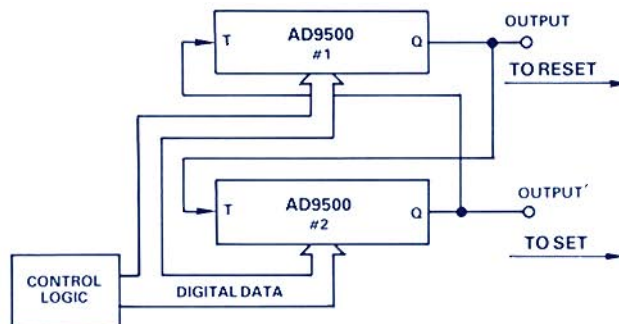

Figure 5. Programmable oscillator.
**Measuring Unknown Delays:** Two AD9500s can measure delays precisely (Figure 5). One is set with little or no programmed delay; its output drives the unknown-delay circuit, which in turn drives the input of the "D"-type flip-flop. The second AD9500 drives the clock input of the flip-flop. With both triggered together repetitively, the programmed delay of the second unit is varied to detect the output edge from the unknown delay.